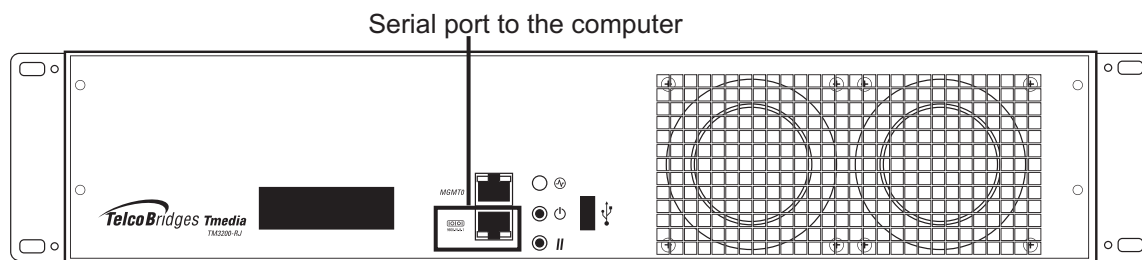

Figure 3.1 Computer to Tmedia VoIP Gateway Serial Port Connection
1. Connect a CAT5 RJ-45 (male-male) cable (supplied with unit) between the com port of your computer and the serial port (labelled 10101) of the Tmedia VoIP gateway as shown in figure 3.1 on page 56. See Section A.2 on page 93 for a RJ-45 console wiring diagram.